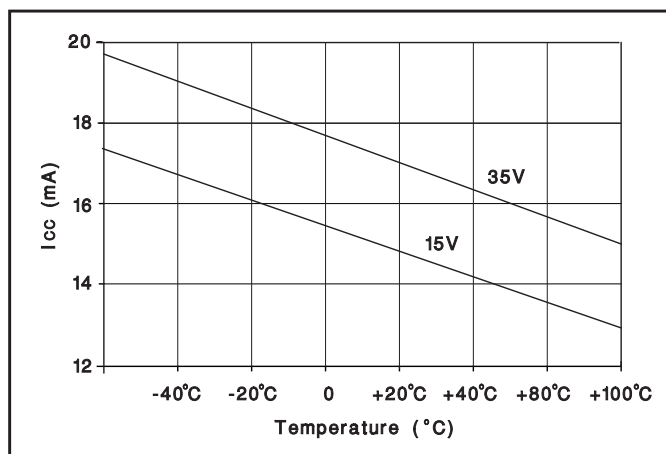

Figure 1.  $I_{CC}$  vs. temperature.
**VCC:** The input voltage to the chip. The chip is operational between 7.5V and 40V and should be bypassed with a  $1\mu\text{F}$  capacitor. A typical  $I_{CC}$  vs. temperature is shown in Figure 1.